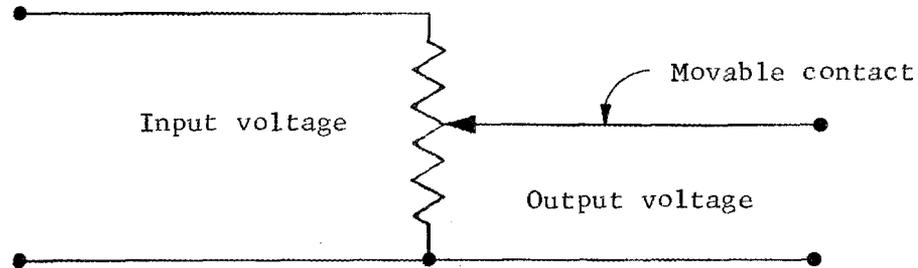

Fig. V-67. Potentiometer
87. You may recall our discussion of the potentiometer (frequently abbreviated "pot."). To refresh your memory, it looks like this schematically (Figure V-67).